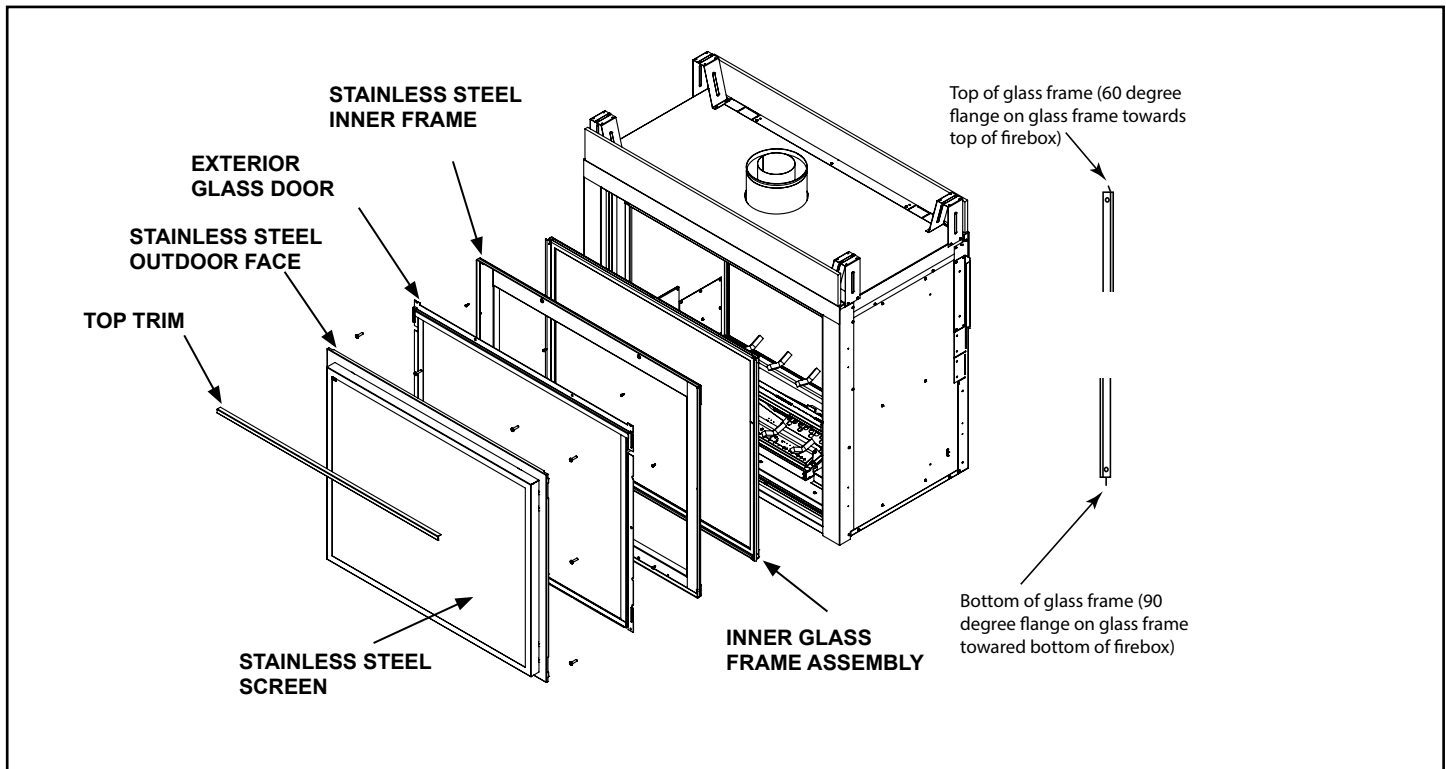

Figure 10.6 Remove Safety Barrier and Glass Frame
1. Remove the top trim at the top of the stainless steel outdoor face see Figure 10.6.
2. Remove the stainless steel screen face by lifting up and out. See Figure 10.6.
3. Remove exterior glass door assembly by unfastening the top four machine bolts, the two side bolts and the two bottom corner bolts. Loosen the two middle bottom bolts but do not remove total to help support the assembly. See Figure 10.6.
5. Remove the stainless steel inner frame by unfastening the two machine bolts at the bottom and the ten stainless steel screws that secure the inner frame to the stainless steel face. Pull the inner frame out. See Figure 10.6.
6. Remove the inner glass frame by releasing the three latches located at the top of the firebox. Tilt glass frame away from the unit. Lift the glass frame up and away from the unit. See Figure 10.6.